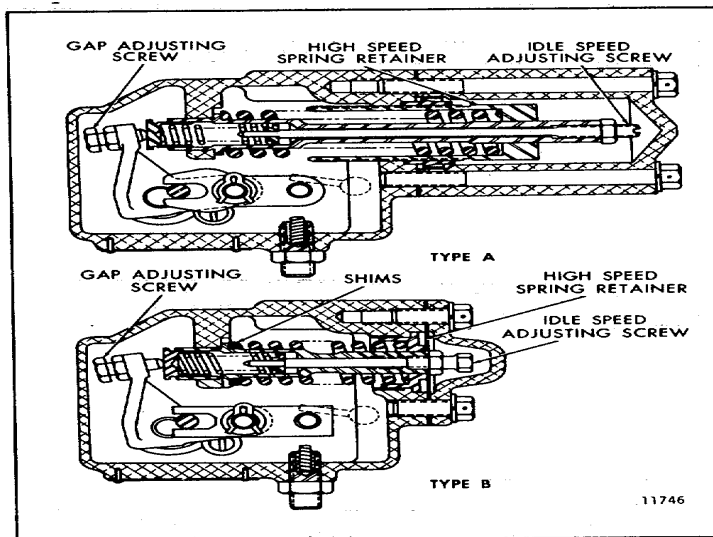

Fig. 6. Governor Spring Assemblies
TYPE A GOVERNOR SPRINGS (Fig. 6):
TYPE B GOVERNOR SPRINGS (Fig. 6):
- b. Remove the high-speed spring from the high-speed spring plunger and add or remove shims (Fig. 6) as required to establish the desired engine no-load speed.